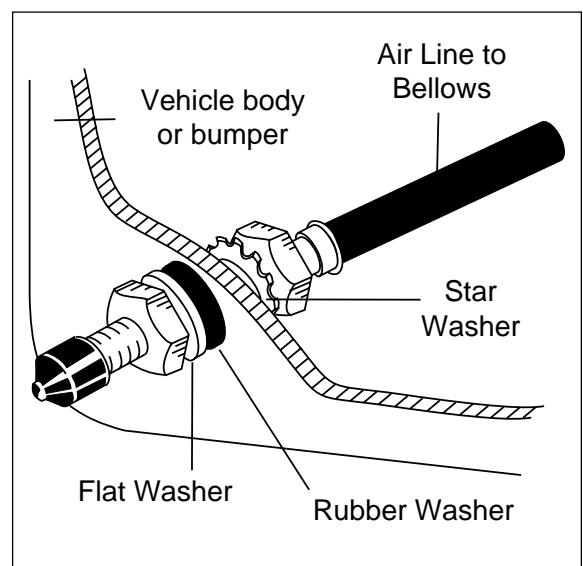

Figure 7
- Use a standard tube cutter, a razor blade, or a very sharp knife to cut the air line. A clean square cut will ensure against leaks. Cut the air line assembly into the equal parts. Drill 5/16" hole for inflation valves and mount as illustrated. Rubber washer on the outside is for weather seal (Figure 7).